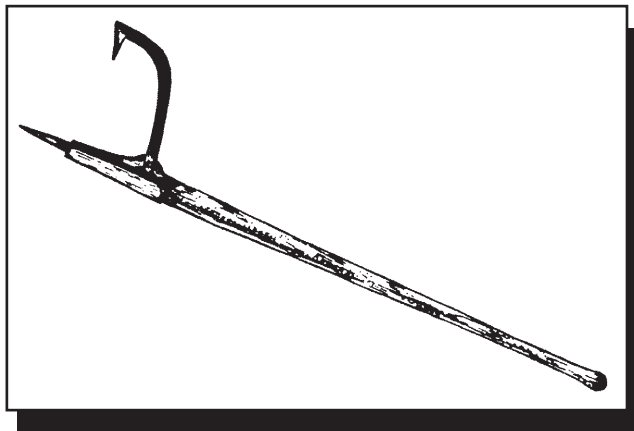
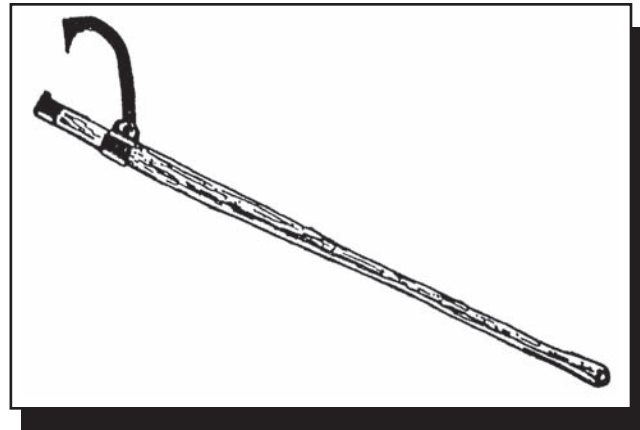

Figure 3-23a—Peaveys are used in the woods to pry logs.
Figure 3-23b—The cant hook has a tow or lip at the lower end instead of a pointed spike like the peavey.
**Peaveys and Cant Hooks**—The blacksmith Joseph Peavey invented the peavey (figure 3-23a). Both the peavey and the cant hook (figure 3-23b) use a curved metal hook on the end of a straight handle to roll or skid logs. A peavey has a sharp pointed spike at the lower end, while a cant hook has a tow or lip. Most peaveys and cant hooks come with a duckbill hook that is a good all-around style. Peaveys and cant hooks come with hickory handles that are from 2 to 5½ feet long.